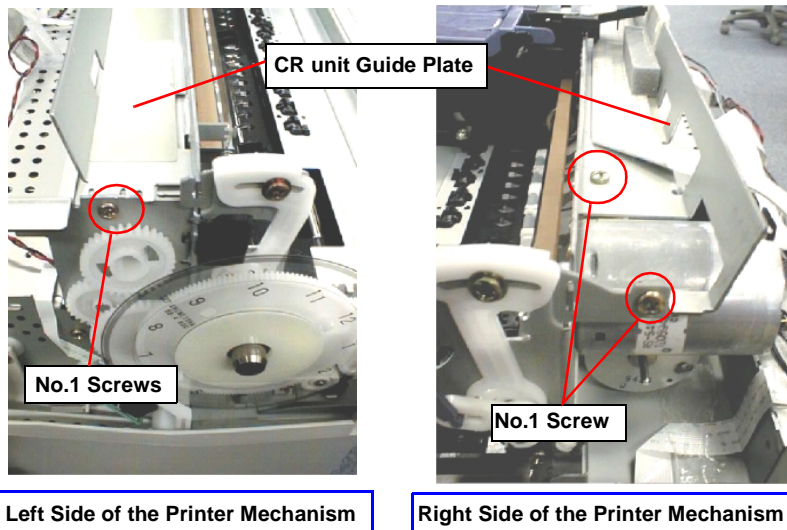

Figure 4-48. Removing the CR Unit Guide Plate
- 6) Remove three screws (No.1) securing the CR unit Guide Plate to the Top Frame. Refer to Figure 4-48.